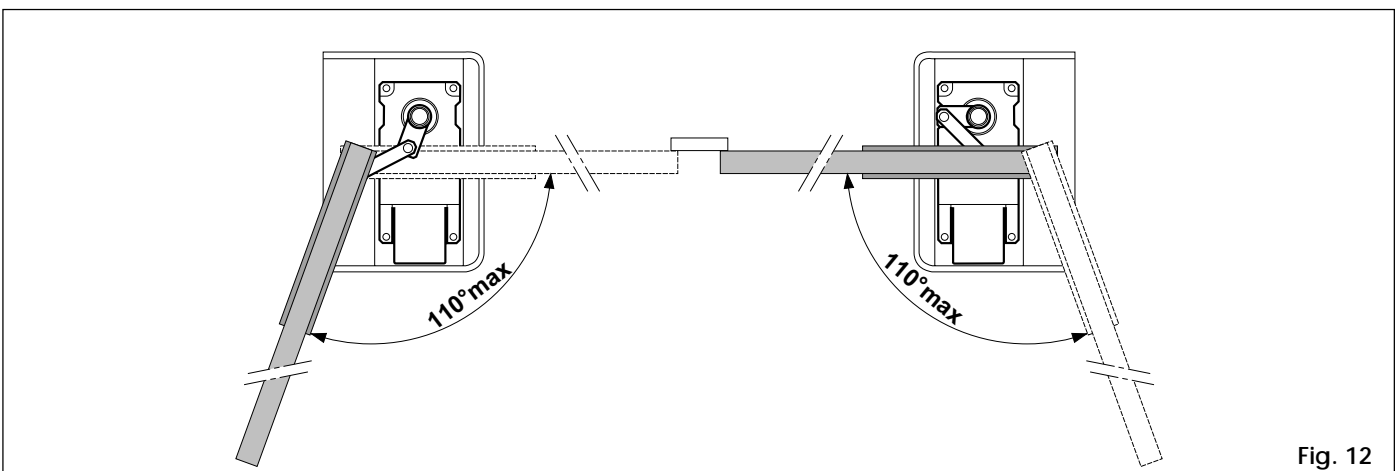

Fig. 12
**Note:** the exact position of the operator is shown in figure 12. In any case the operator pinion must be on the opposite side of leaves opening direction.